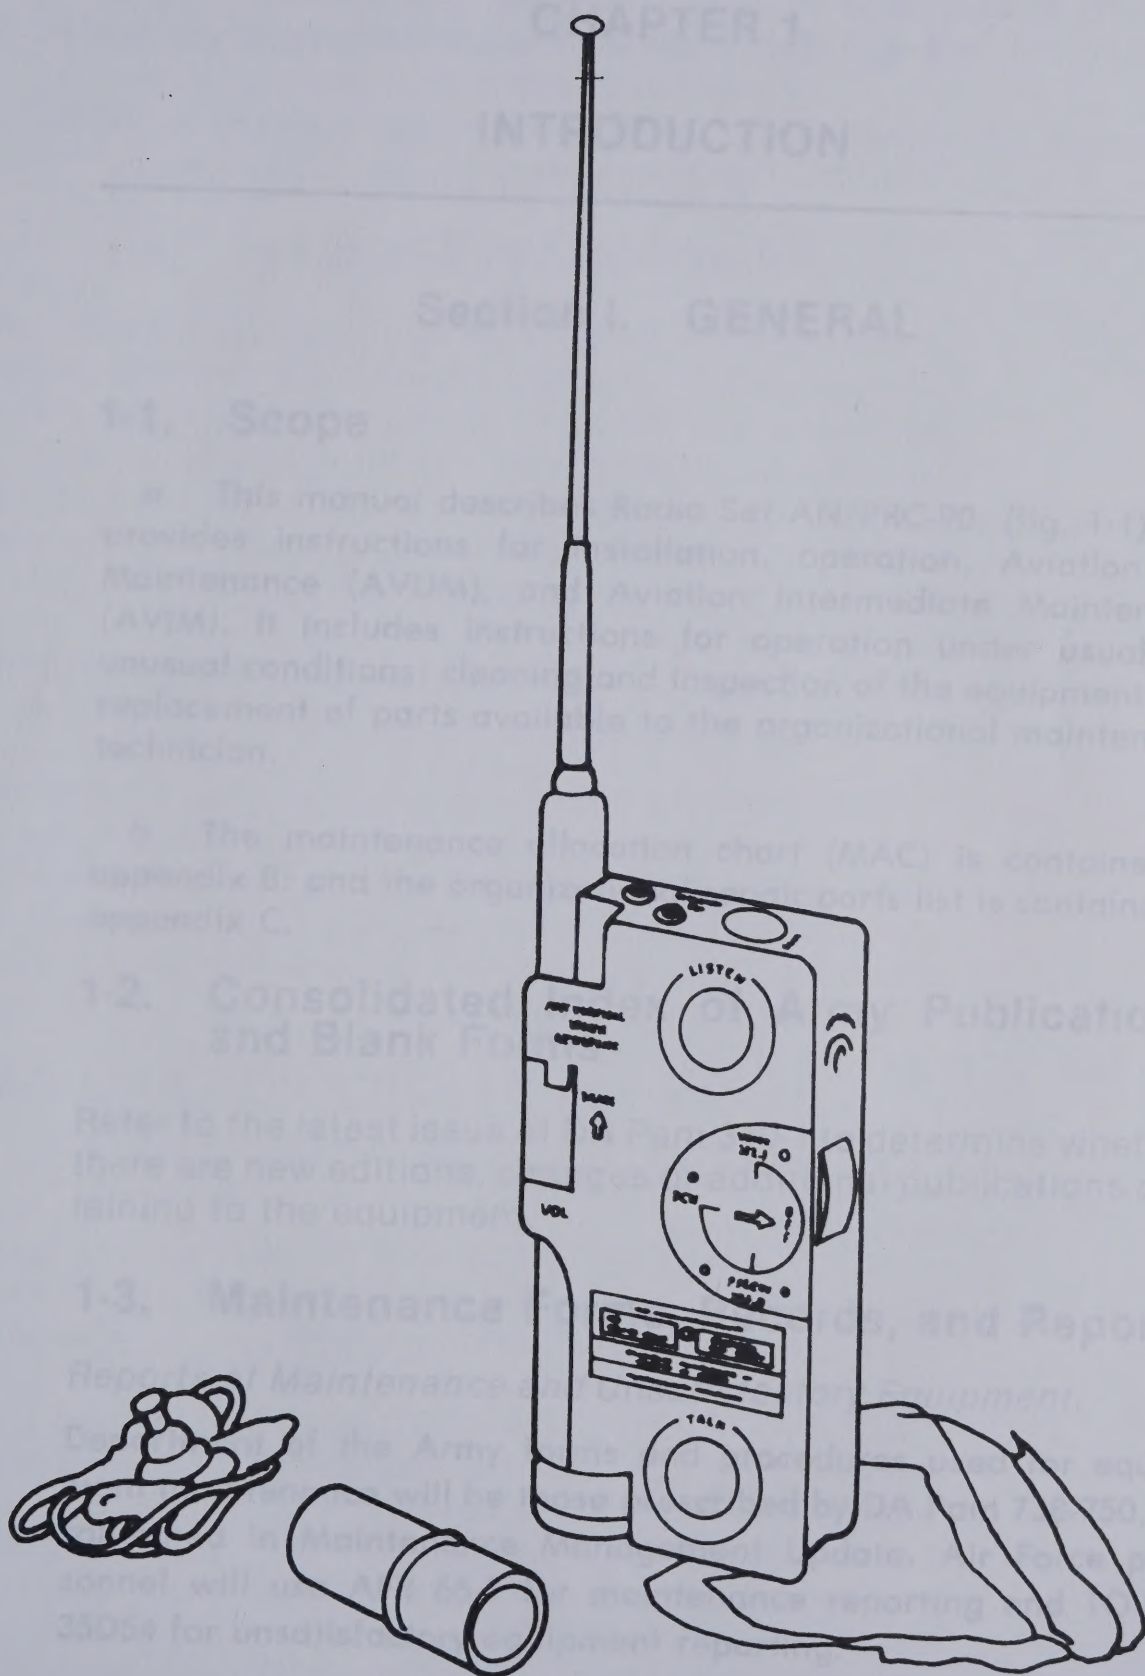

Figure 1-1. Radio Set AN/PRC-90.
a. This manual describes Radio Set AN/PRC-90, (fig. 1-1), and provides instructions for installation, operation, Aviation Unit Maintenance (AVUM), and Aviation Intermediate Maintenance (AVIM). It includes instructions for operation under usual and unusual conditions, cleaning and inspection of the equipment, and replacement of parts available to the organizational maintenance technician.